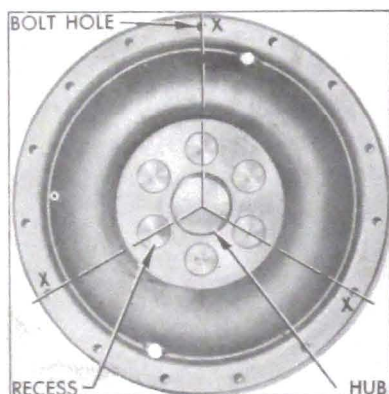

Figure 5-104—Location of Driving Bolt Holes
18. Looking at front face of converter pump cover, select the three bolt holes (X) that are aligned with the center of the hub and one of the counterbored recesses adjacent to hub. **Mark** these holes for later installation of the flywheel-to-pump driving bolts. See figure 5-104.